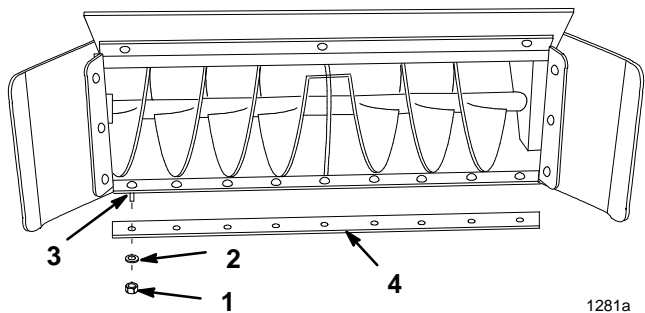

Figure 27
3. Remove nuts, washers, carriage bolts and scraper blade (Fig. 27).
4. Reverse scraper blade and install with previously removed hardware (Fig. 27).